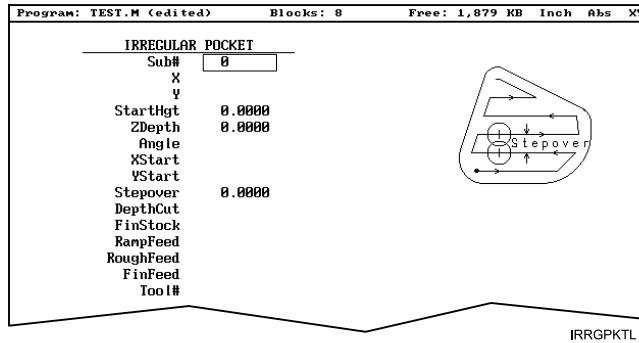

Figure 5-22, IRREGULAR POCKET Graphic Menu
2. Highlight **IRRegular**, and press **ENTER** to display the **IRREGULAR POCKET** Graphic Menu. Refer to **Figure 5-22**.